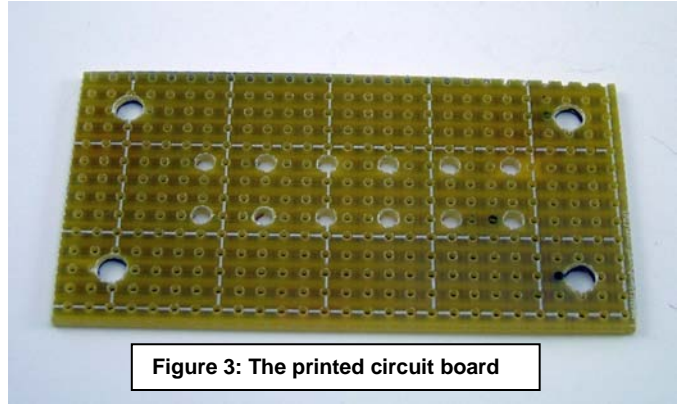

Figure 3: The printed circuit board
- 4.) Cut the strip board to size and drill 7/64" clearance holes for the copper wires on a 0.3" x 0.3" grid. If mounting in a box, also drill 4 1/8 inch corner holes for mounting screws. Fig 3.